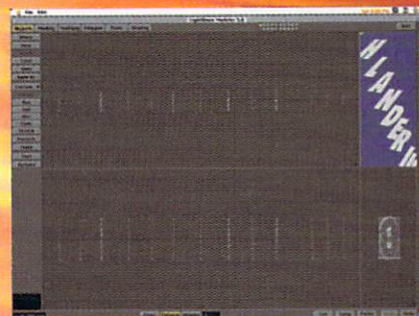

Figure 3
3. You can now repeat the process for each of the remaining letters: Scroll the view sideways to see the next letter, click once on it, and place your cursor over its center. Press "r" and then press "/". Doing it this way is considerably faster than entering the values numerically or dragging with your mouse. Once all of the letters have been rotated to face sideways (Figure 3), save the current version of the object to disk with a different name (such as Source1.lwo). You are now the proud owner of a pair of morphable text objects.